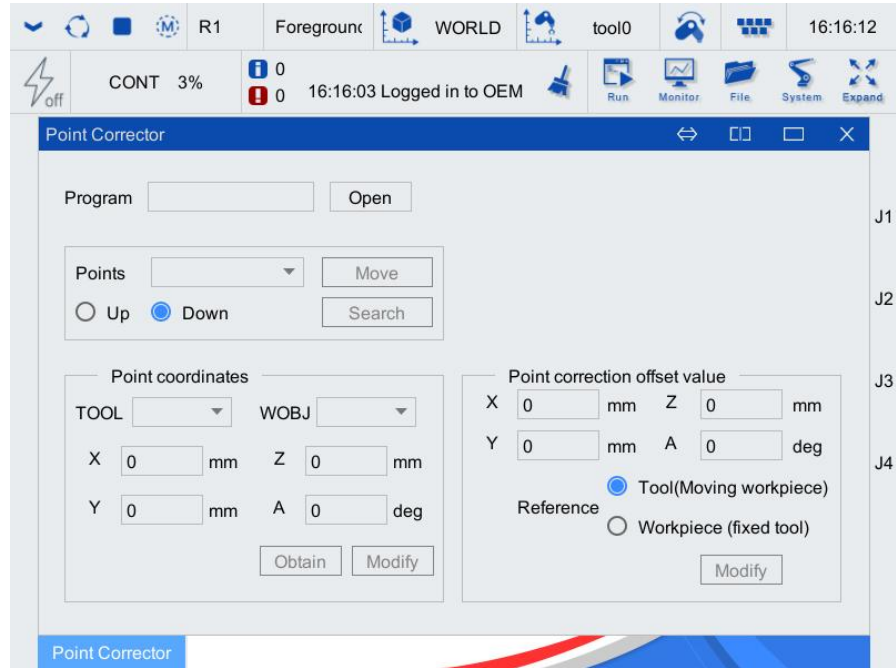

Figure 5-70 "Point Correction" Interface
Step1. On the main interface of the teach pendant, click "Run > Point Corrector" option to enter the "Point Corrector" interface as shown in Figure 5-70.